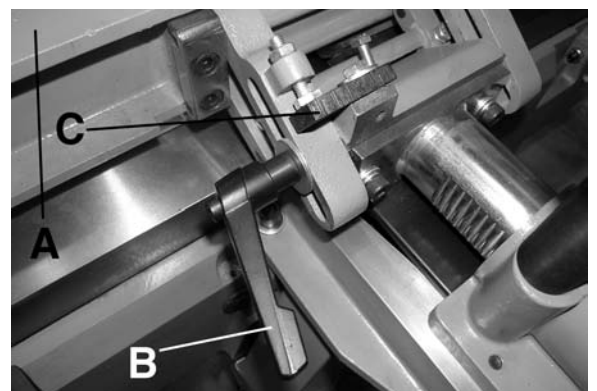

FIGURE 9
To tilt the fence (A) Fig.9 to the right or to the left, loosen lock handle (B), move the fence to the desired angle and tighten lock handle (B) securely.